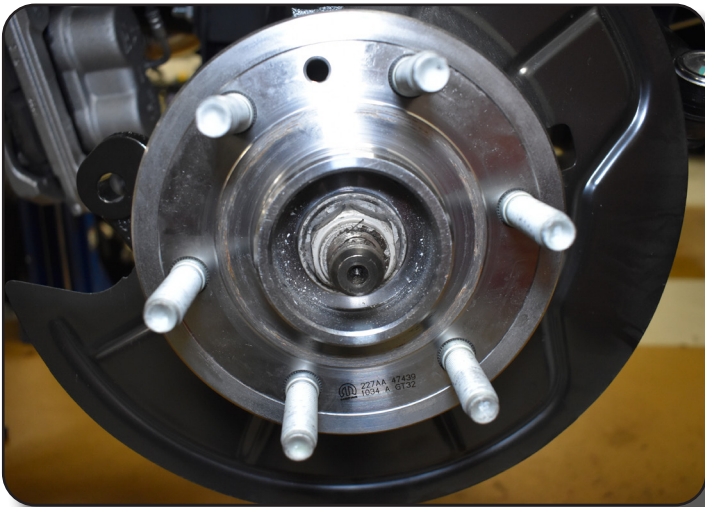

Figure 52
84. Install CV axle nut using 35mm socket. Fig. 52 Torque to 184 ft-lbs